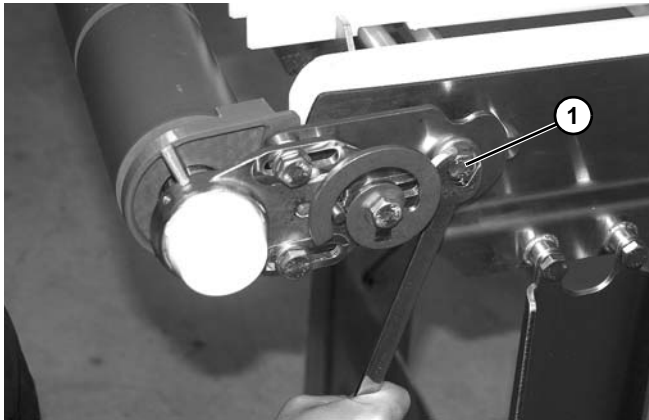

Figure 131
2. Remove headplate screw (Figure 131, item 1). Repeat on opposite side of the conveyor.